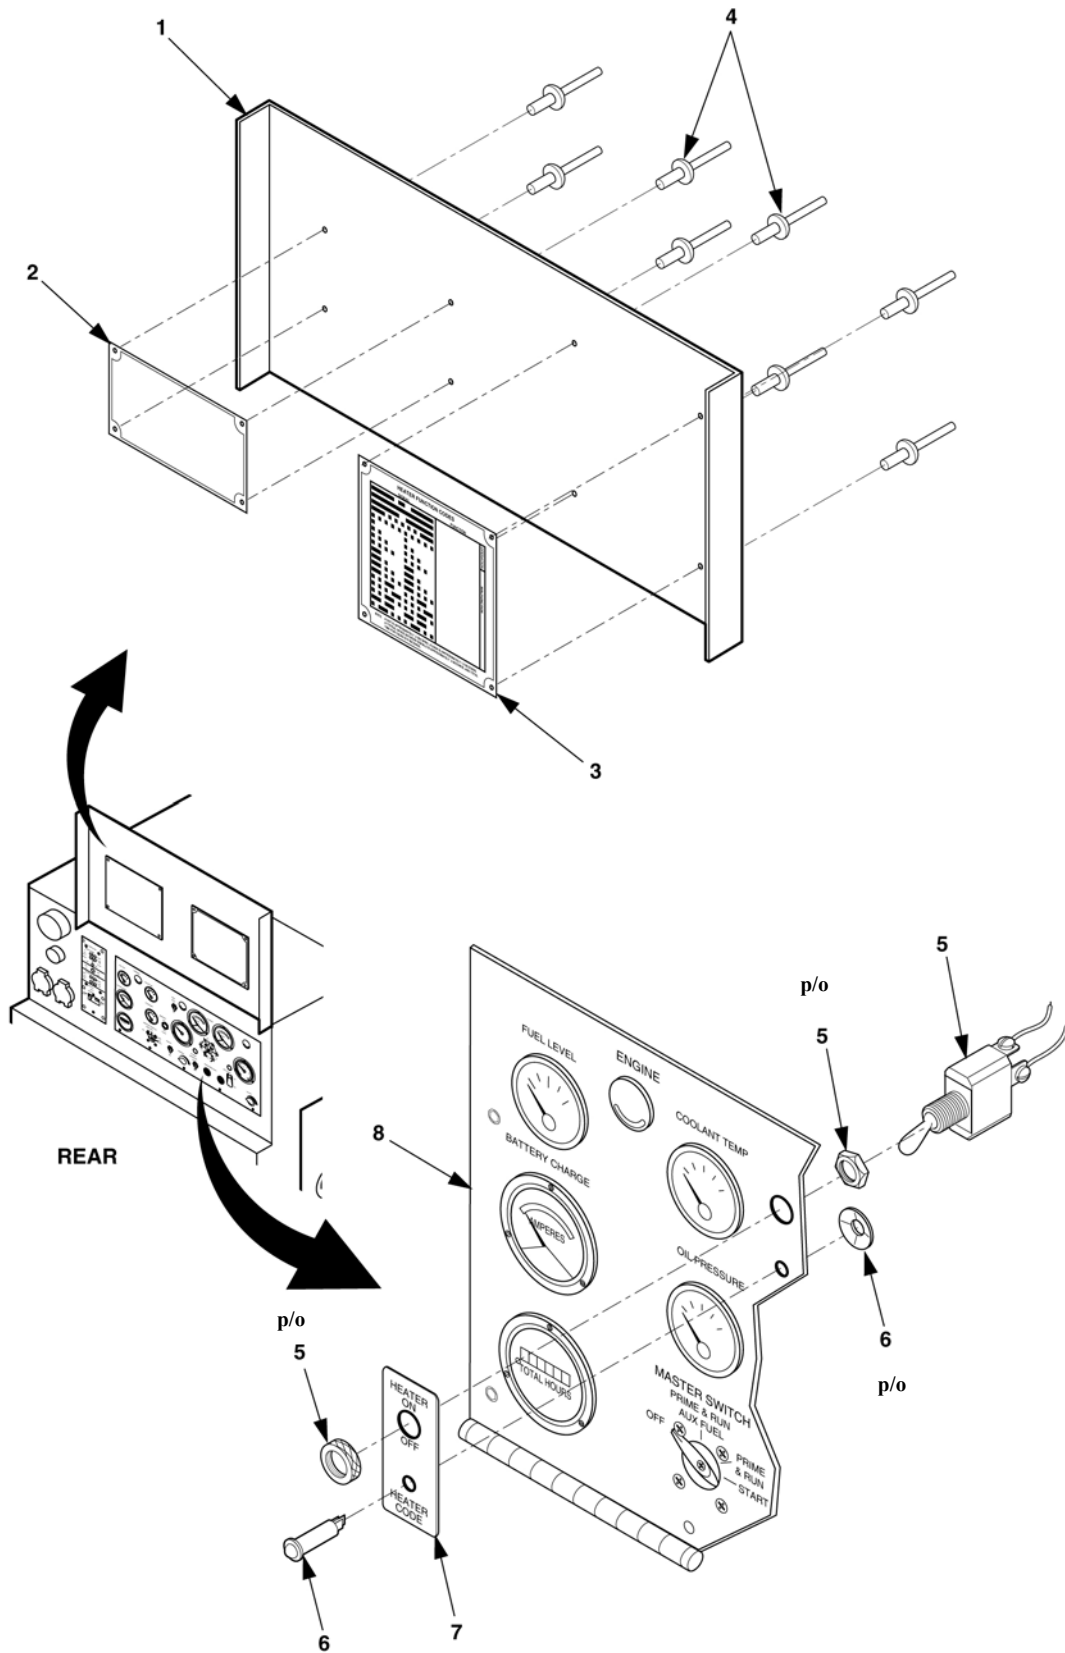

Figure 4-33. Cover and Instrument Panel.
5. Open control panel access door (1), Figure 4-33.
10. Remove toggle switch (5), indicator lamp (6), and heater switch label (7), Figure 4-33.